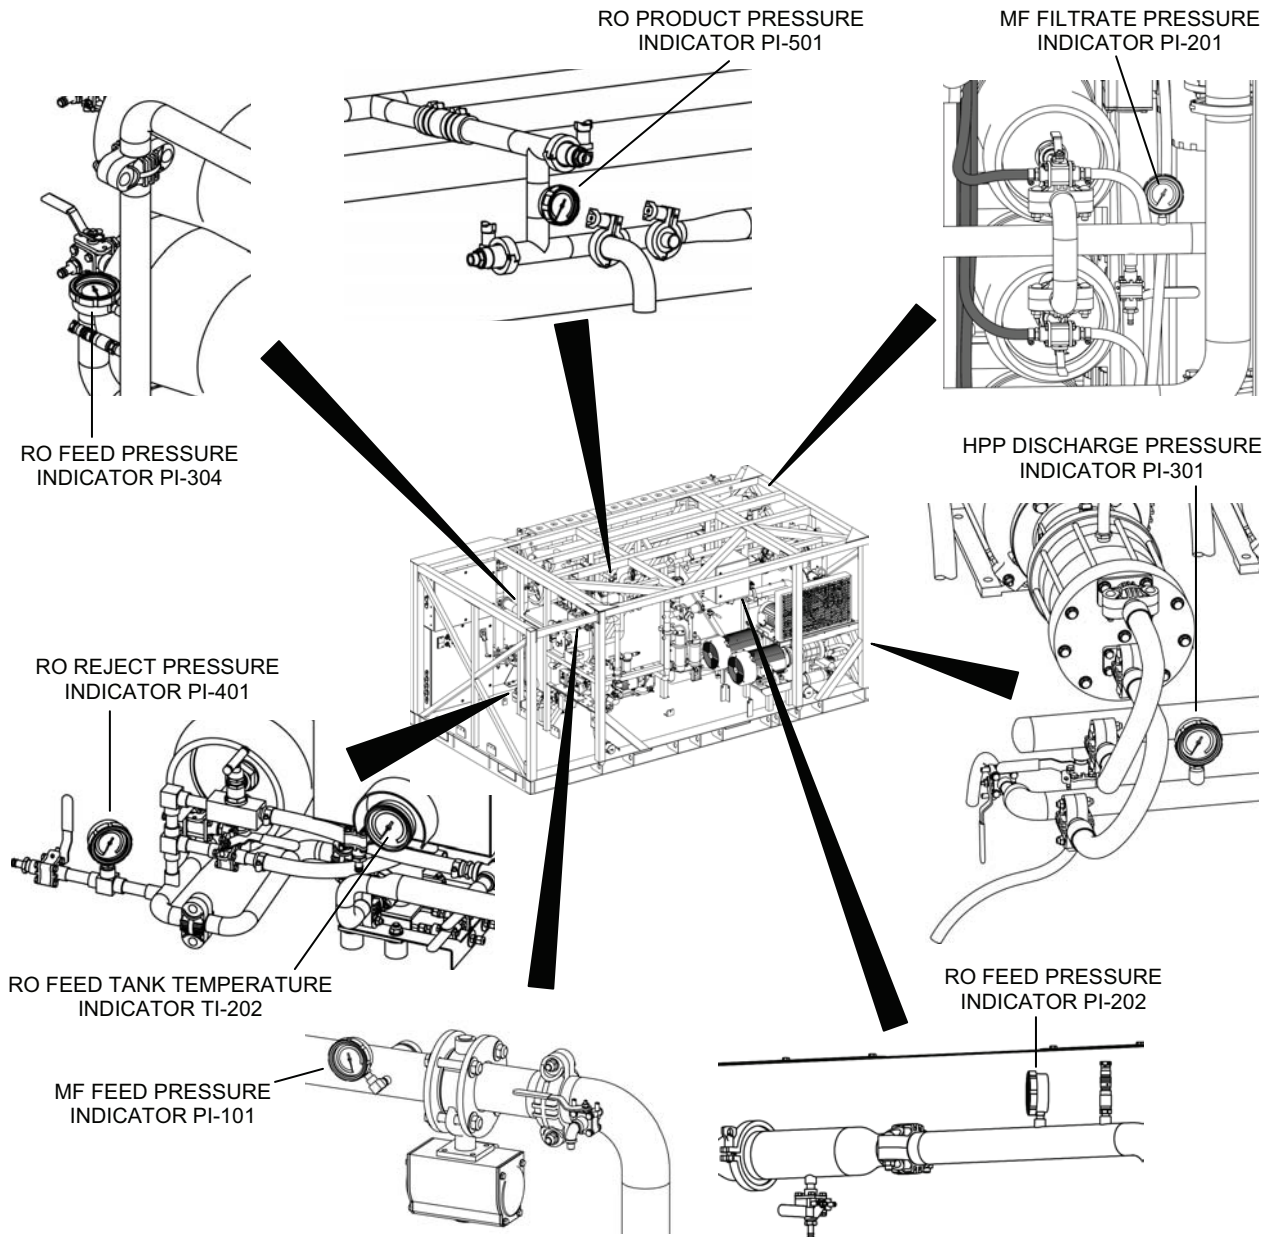

Figure 11. Location and Position of MF and RO System Indicators.
2. Remove the indicator as follows (see Figure 11 for the location and position of MF and RO system indicators):